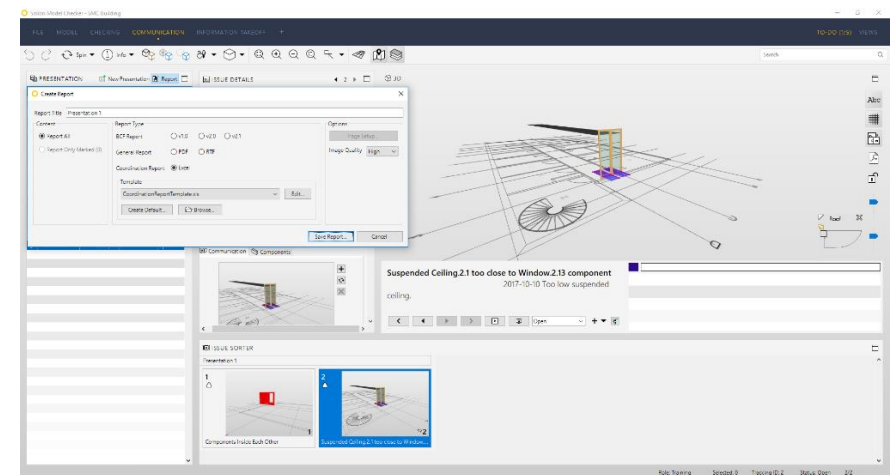

Figure 71: Creating a Coordination Report
- 1) You can write a report containing all issues and comments by clicking Report  on the Presentation View Toolbar (see Figure 71). Create Report Dialog is opened.